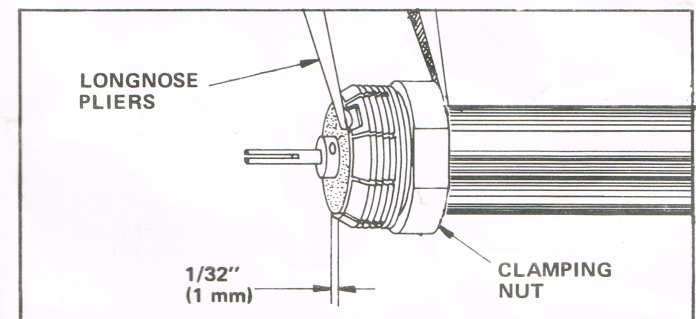

FIGURE 3
STEP 3. Cover foam at end of cable with silicone grease to seal pores. Also apply grease to clean surface of outer conductor. Screw clamping nut onto cable until outer conductor is exposed per dimension shown in Figure 3. Use longnose pliers to crimp outer conductor into opening in clamping nut as shown. This prevents clamping nut from rotating. Apply thin coating of silicone grease to threaded area of clamping nut. Wipe beveled end of clamping nut free of silicone grease.